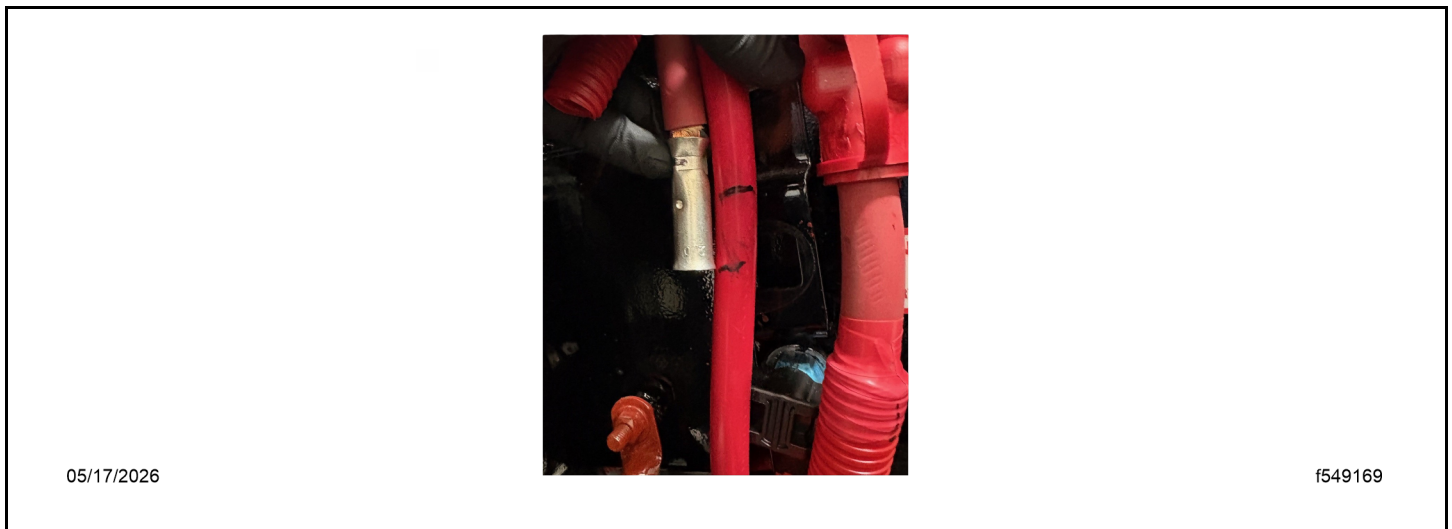

Fig 126, Determining the BCA Cable Length
36. Determine the ideal length for the new auxiliary BCA cable between the starter and butt connector. Cut the cable. See Fig. Fig. 126.